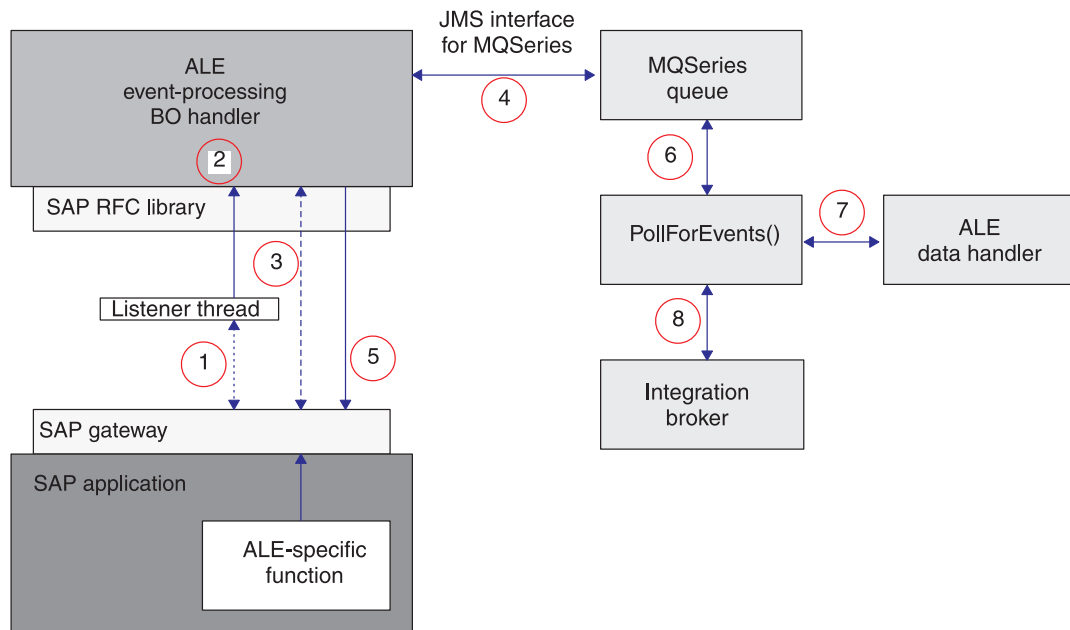

Figure 17. Business object event processing
**Processing events in the MQSeries queue:** Figure 17 on page 132 illustrates how the ALE Module processes the MQSeries queue.